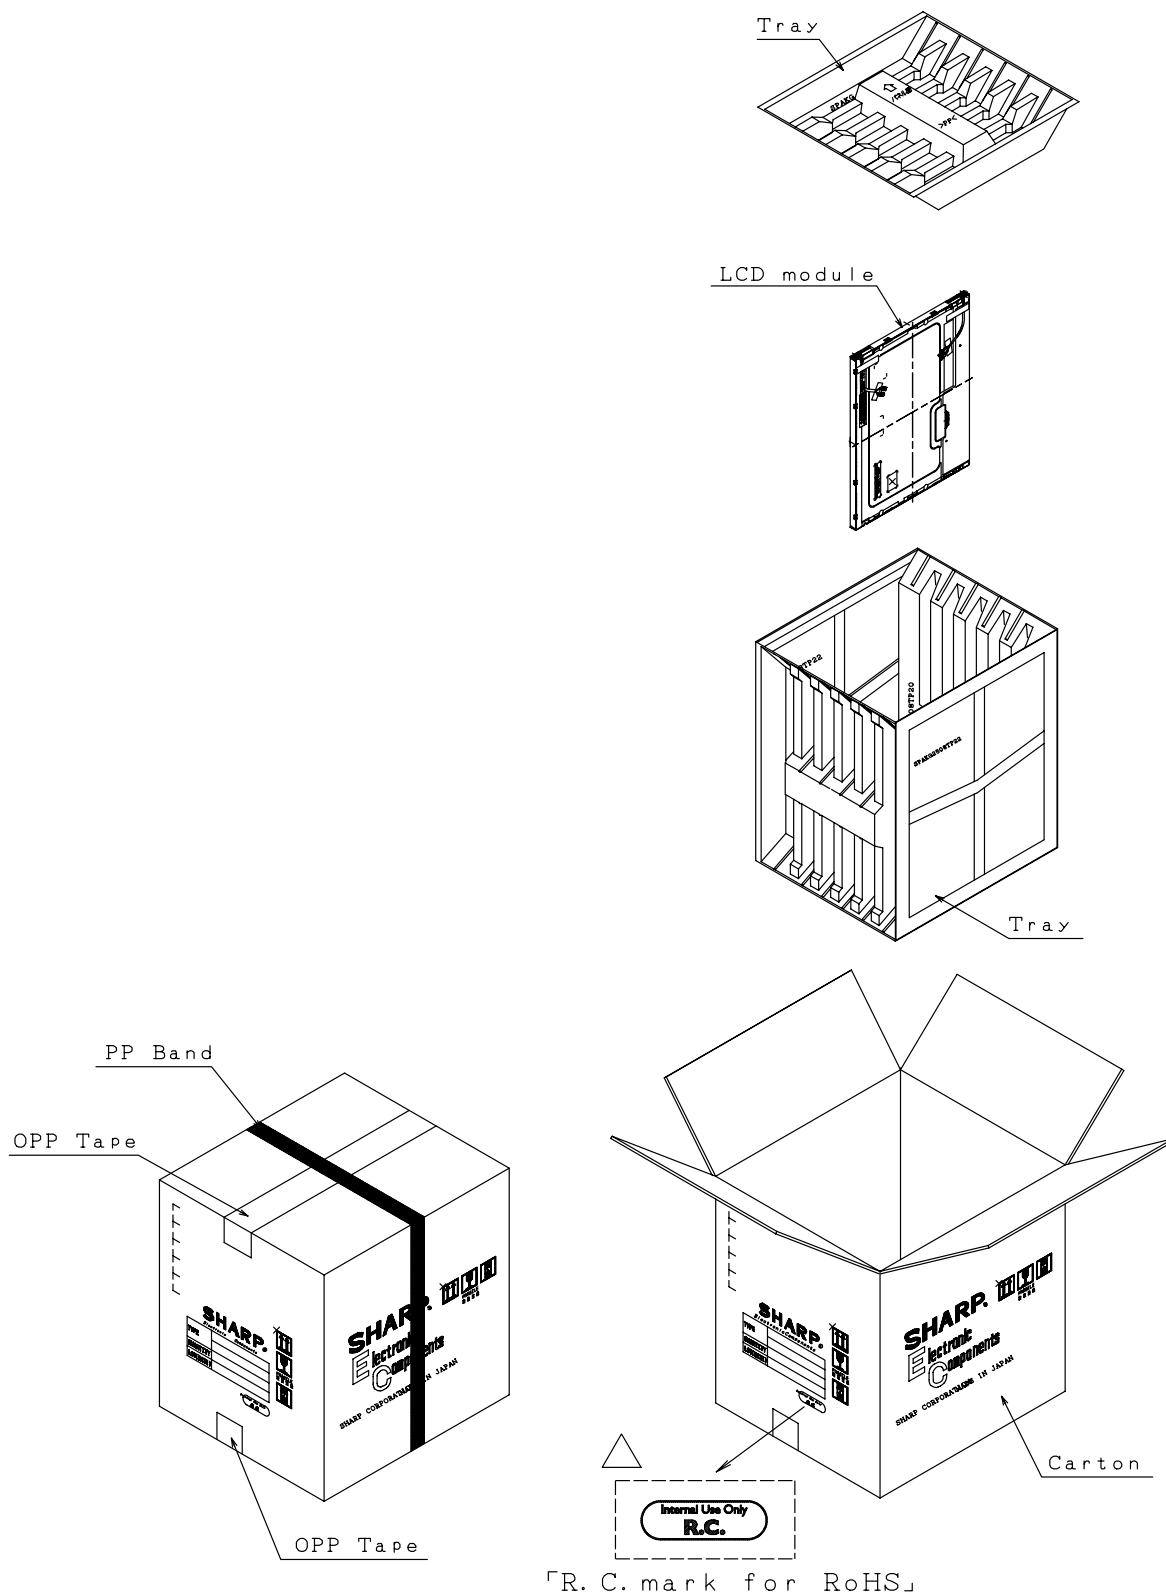

Fig 3 : PACKING FORM
- e) Packing form is shown in Fig.3